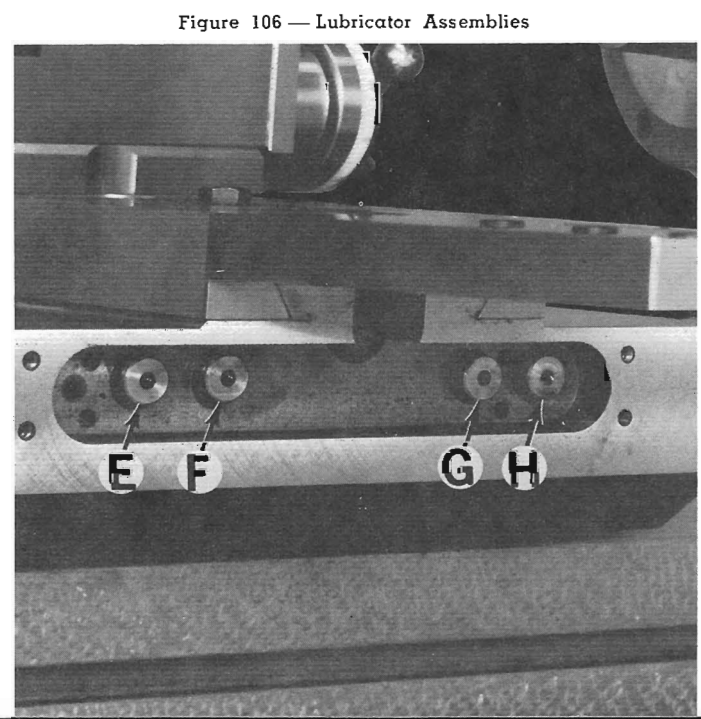

Figure 106 — Lubricator Assemblies
3. Remove lubricator assemblies "E", "F", "G" and "H", Figure 106. Lubricator assemblies "E" and "H" are for the channel in carriage bottom and "F" and "G" are for channels in the top of carriage. **DO NOT INTERCHANGE LUBRICATOR ASSEMBLIES.**